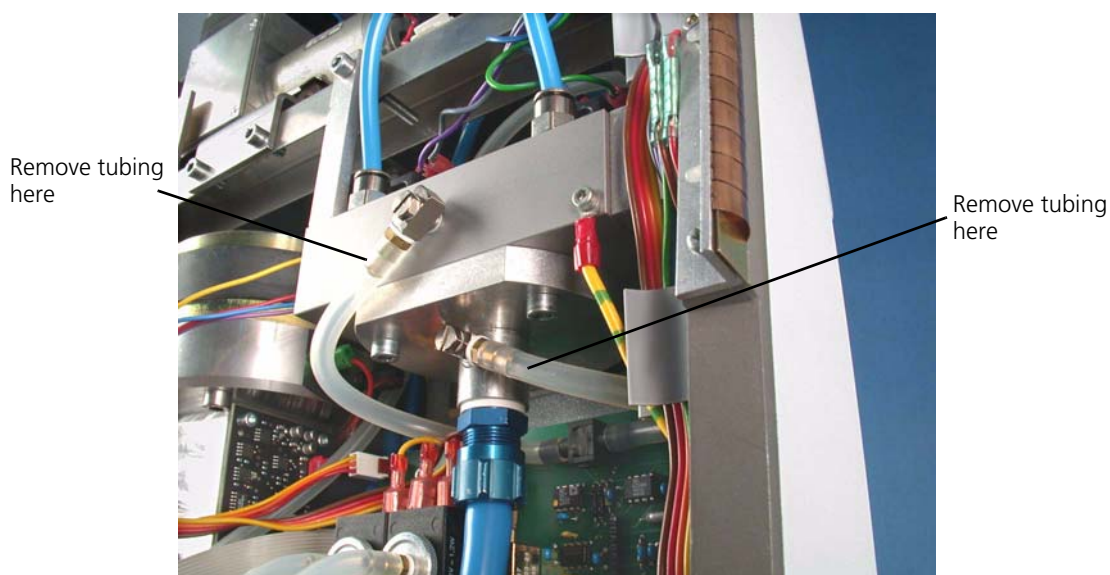

Figure 11-218. The sensor board to mixer block connections
3. Remove from the mixer block, the pneumatic tubing connecting the sensor board to the mixer. (Figure 11-218.).